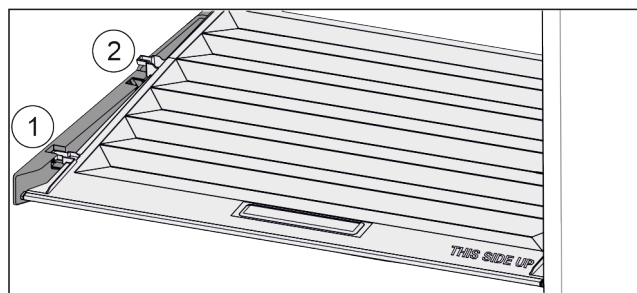

Fig. 36
- ▶ Pull the lid up at the front to the opening in the retaining parts Fig. 36 (1).
- ▶ Lift from the back and pull it up and out Fig. 36 (2).